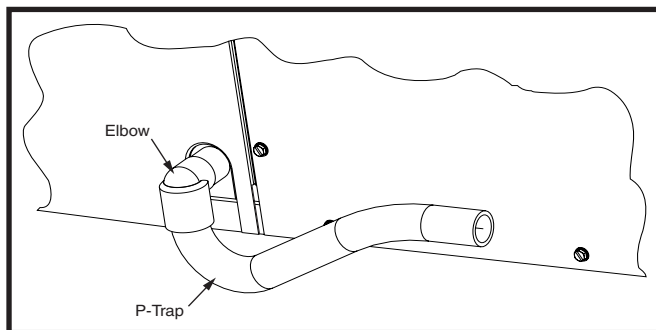

Figure 7. Drain Trap
A 3/4" condensate fitting extends out of the side of the unit as shown in Figure 7. The drain trap, shipped in the electrical compartment, must be installed to prevent water from collecting inside the unit.
2. Connect the condensate tubing onto the fitting, forming a trap (Figure 7) near the drain connection.